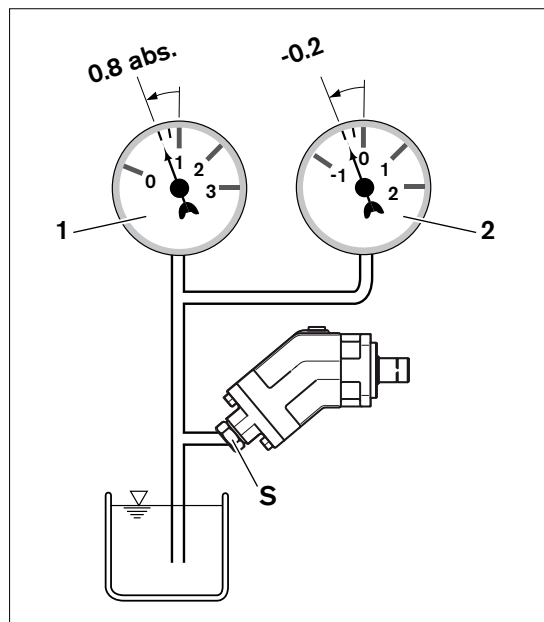

Fig. 7: Suction pressure
- ▶ Make sure that a minimum suction pressure of 0.8 bar absolute is present at port "S" during operation and on cold starts in all installation positions and installation locations for the axial piston pump, see Fig. 7. See data sheet for additional values.